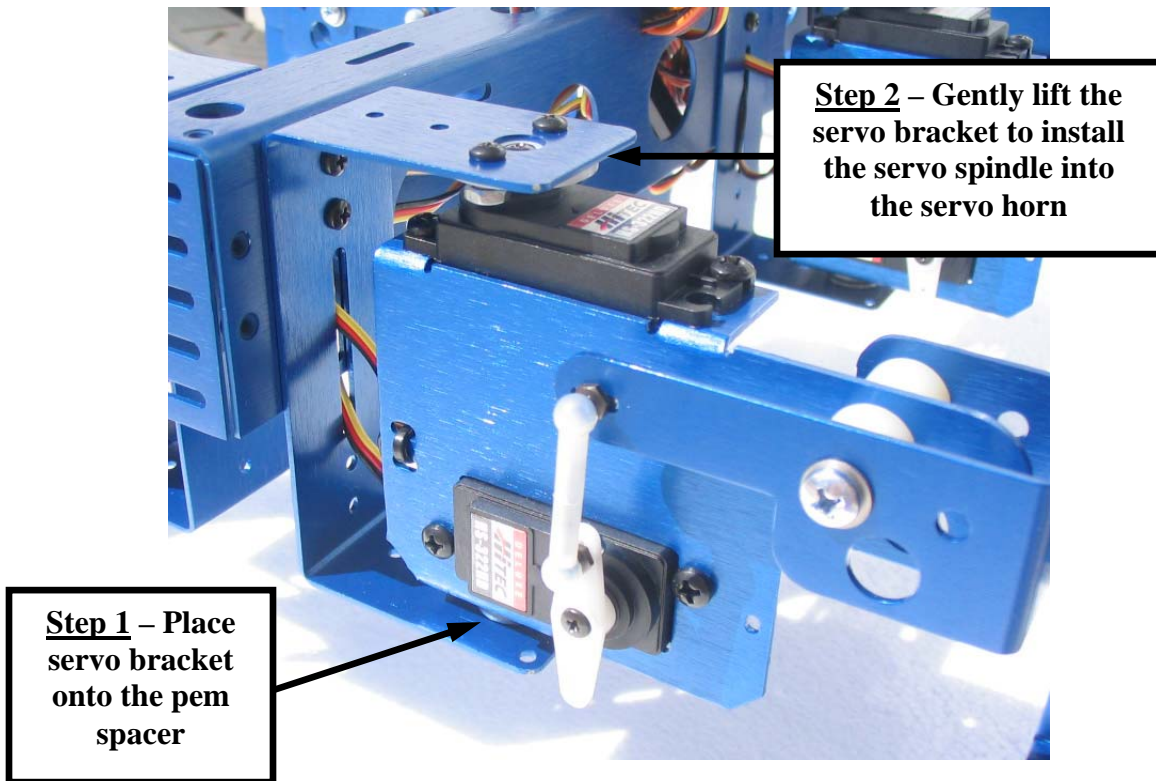

Figure 19
21. Install the completed leg assembly to the servo bracket by first placing the hole located at the bottom of the servo bracket onto the edge of the pem spacer and then gently lifting the top of the servo bracket to place the horizontal servo's spindle into the servo horn as shown in figure 19.
- **Note:** Install the “right hand” legs (figure 19) to the side of the channel that has the pem nut protruding out from the side of the lower part of the channel body. All of the left hand legs are located on the non-pemmed side of the channel.